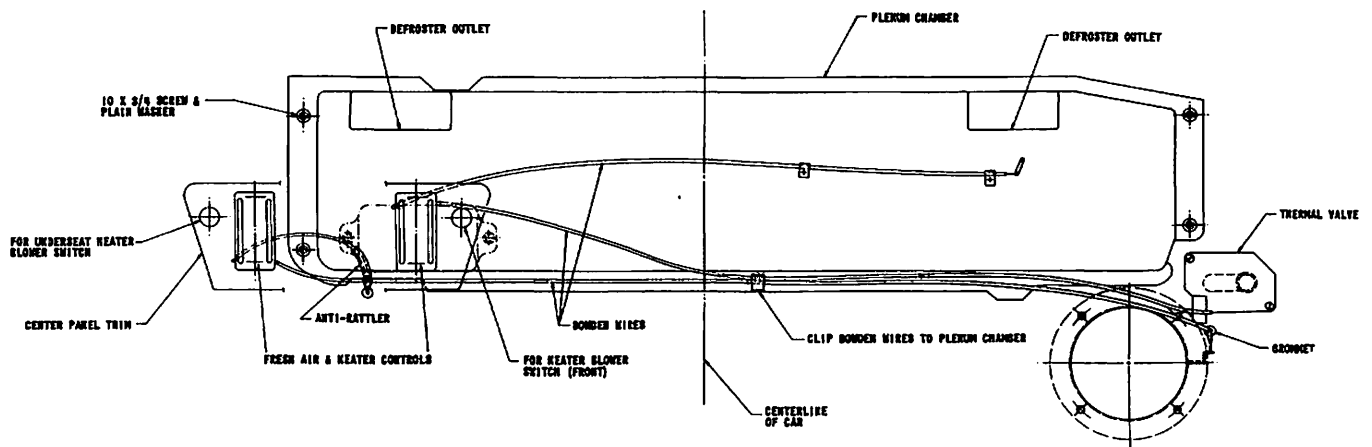

Figure 4
16. With defrost—heat lever in "Heat" position and plenum chamber in heat position. See figure 6. Fasten bowden wire to plenum chamber valve with speed clip. Fasten bowden cable to plenum chamber with two clips. See figure 4.
17. With temperature lever in "High" position and thermal valve open fasten bowden wire to thermal valve with speed clip, then tighten bowden cable down to clamp. See figure 4.
18. Take the thermal valve bowden cable and the right hand fresh air cable and fasten them to the bottom of the plenum chamber with the push on clip furnished in kit. See figure 4.